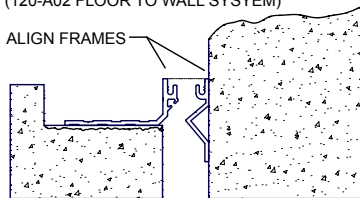
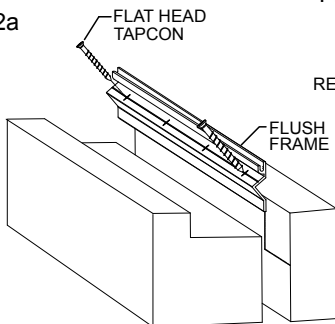

FIG. 2a
FIG. 2b
7. Drill holes for the flush frame using a 1/4" (6mm) drill bit to a 1 1/8" (30mm) depth. See Fig. 2a. Drill holes in the blockout using a 3/16" (5mm) concrete drill bit to 1 5/8" (42mm) depth. See Fig. 2b.